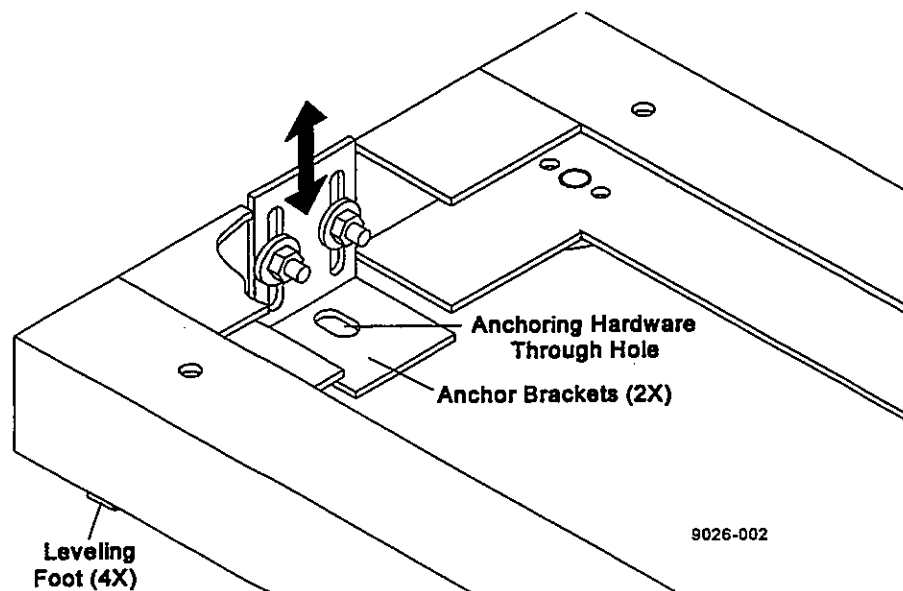

FIGURE 2-1 TM30 & TM40 RPU BASE
- a. Install the base mounting brackets and their hardware (see **FIGURE 2-1**) in the RPU base.